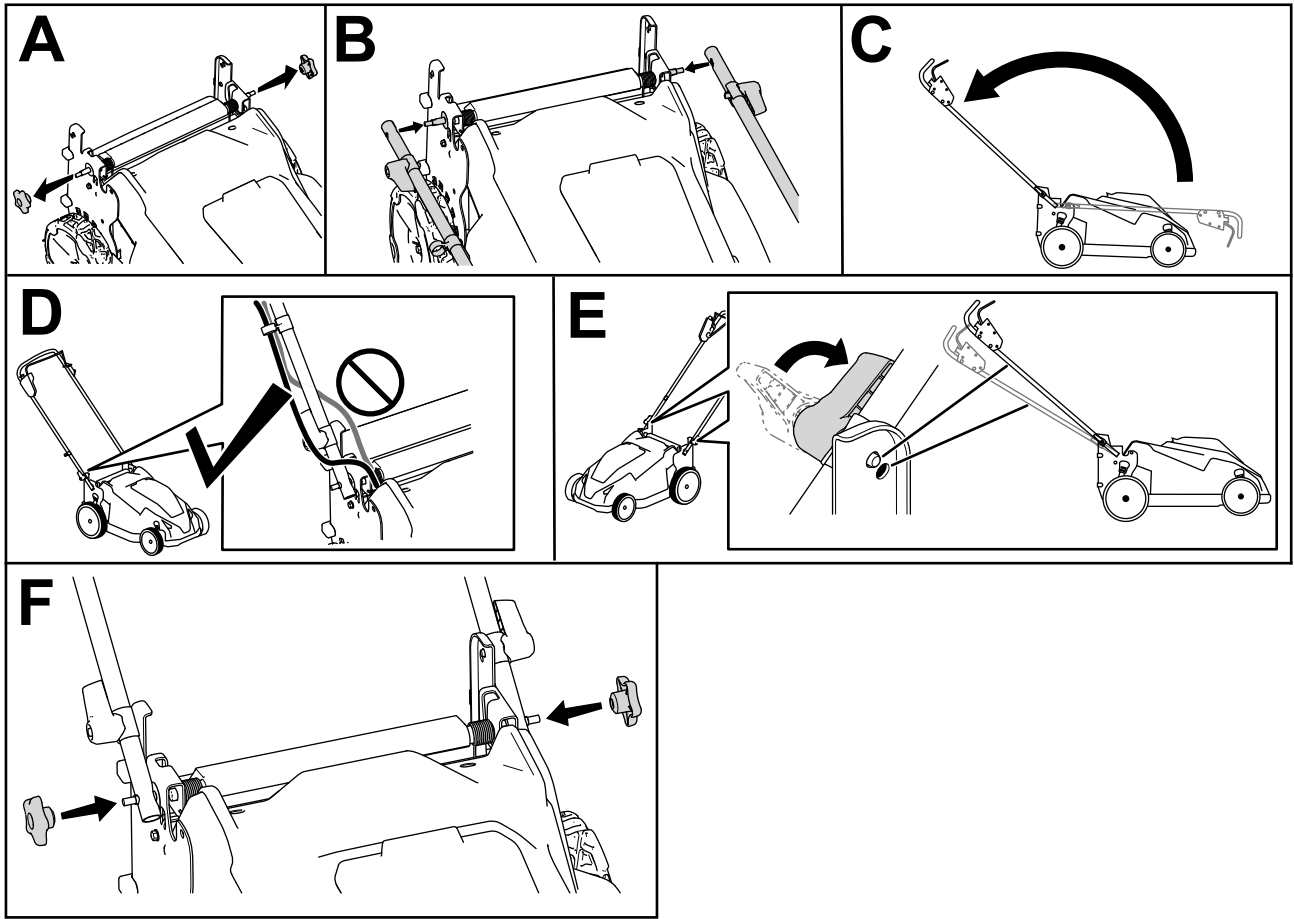

Figure 6
1. Remove the handle knobs (A of Figure 6).
2. Using the holes at the ends of the handle, attach the handle to the machine (B of Figure 6).
3. Move the handle rearward to the operating position (C of Figure 6).
4. Ensure that the cables are routed in front of the handle (D of Figure 6).
5. Engage the handle locks until the pin clicks in place to lock the handle into the operating position (E of Figure 6).
6. Secure the knobs to the handle bolts to secure the handle (F of Figure 6).